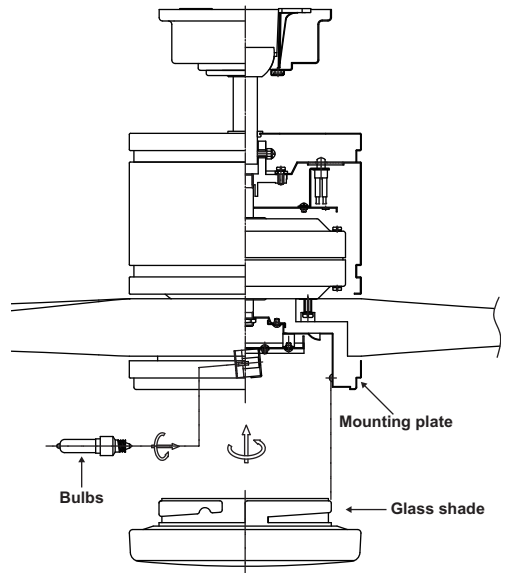

Figure 17
Step 1. Install 1 × 75W JD-type halogen bulb (included). (Fig. 17)
Step 2. Install the glass shade by carefully turning it clockwise until snug. **DO NOT OVERTIGHTEN.** (Fig. 17)